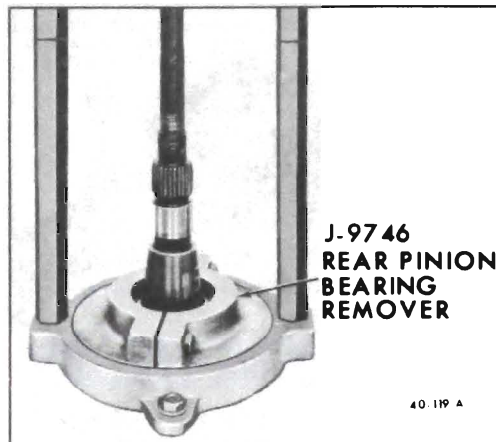

Figure 40-98 - Removing Rear Pinion Bearing
5. If rear pinion bearing is to be replaced, remove rear pinion bearing from pinion shaft using Remover J-9746 with Holder J-6407. See Figure 40-98.